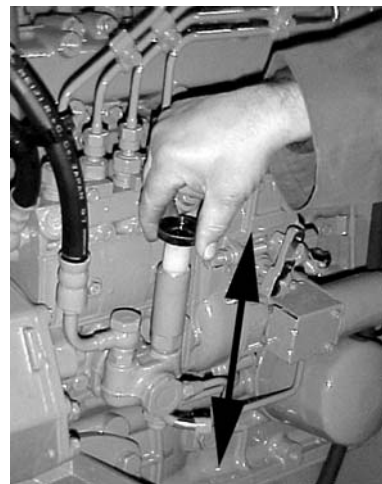

Fig. 5.3.3
- Operate the priming pump (Fig. 5.3.3)